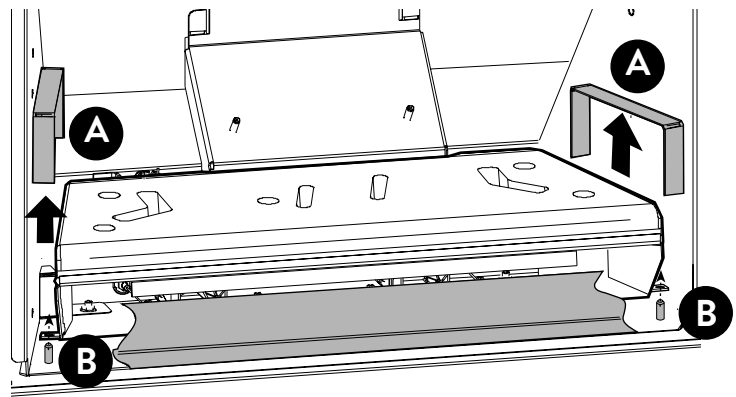

Figure 13. Burner removal.
4. **REMOVE THE BURNER: Fig. 13**
- Replace the two Side Panel Shelves, between the burner and the walls. fig. 13.